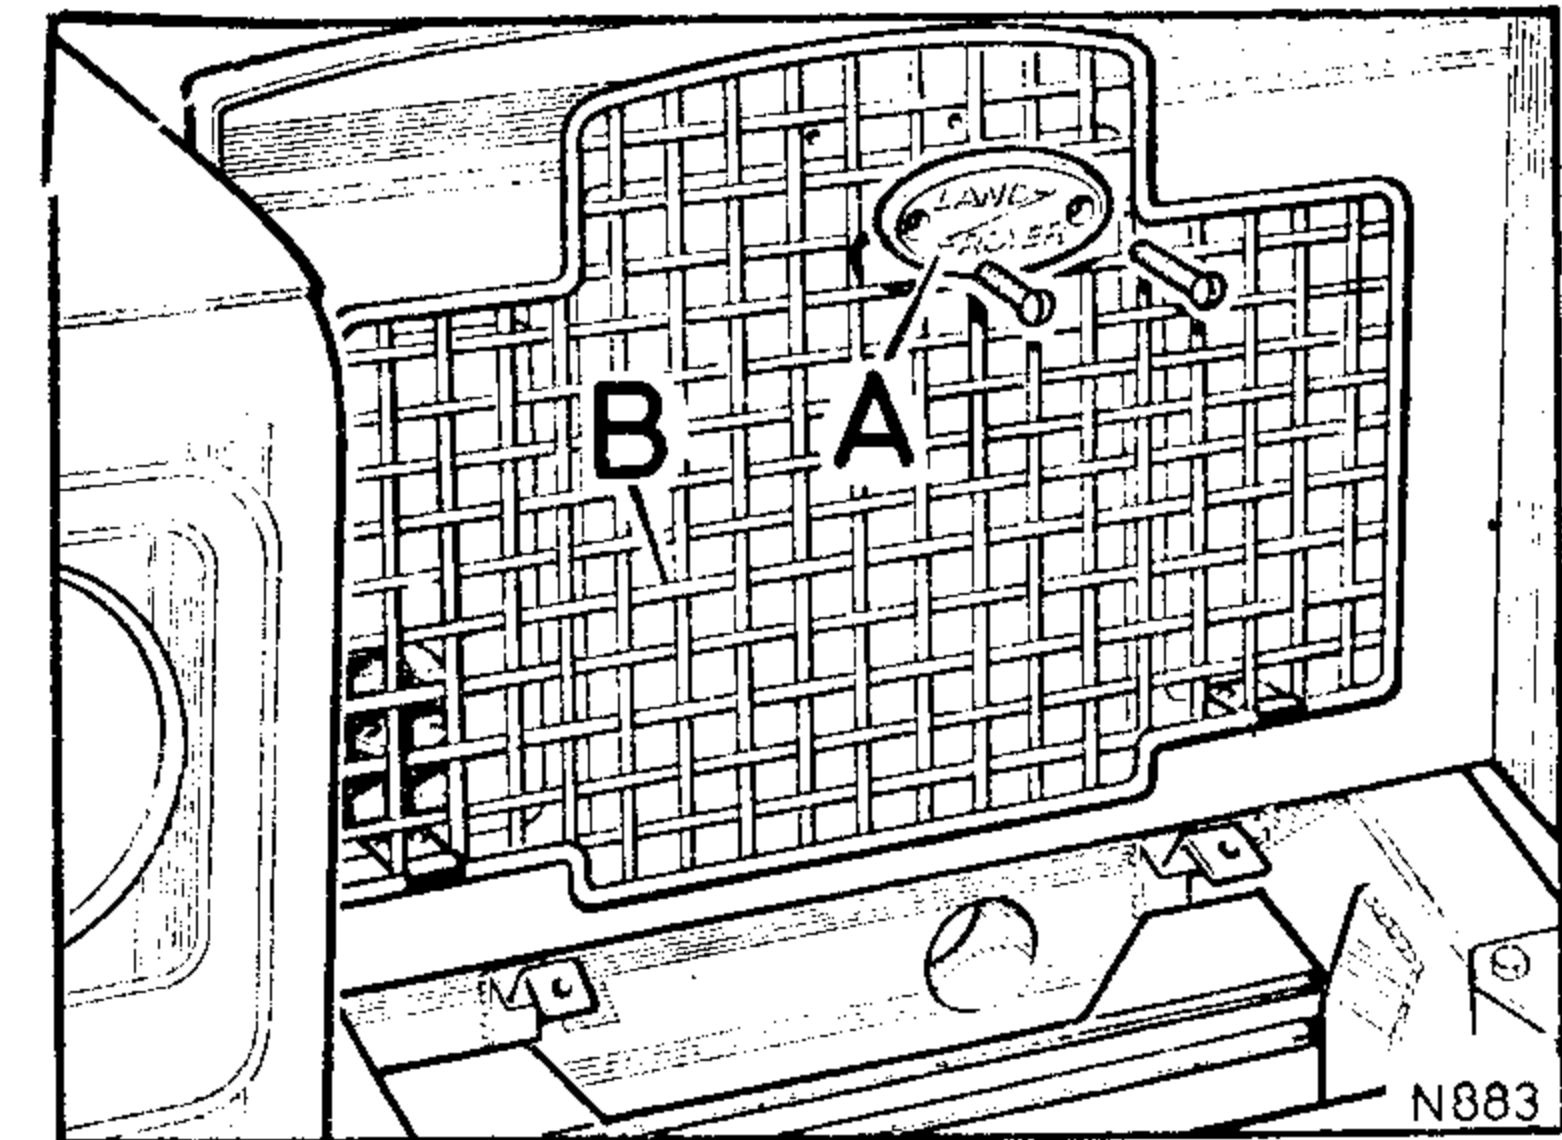

Fig. 49. Radiator grille
1. Remove the name plate (A) and withdraw radiator grille (B), Fig. 49.